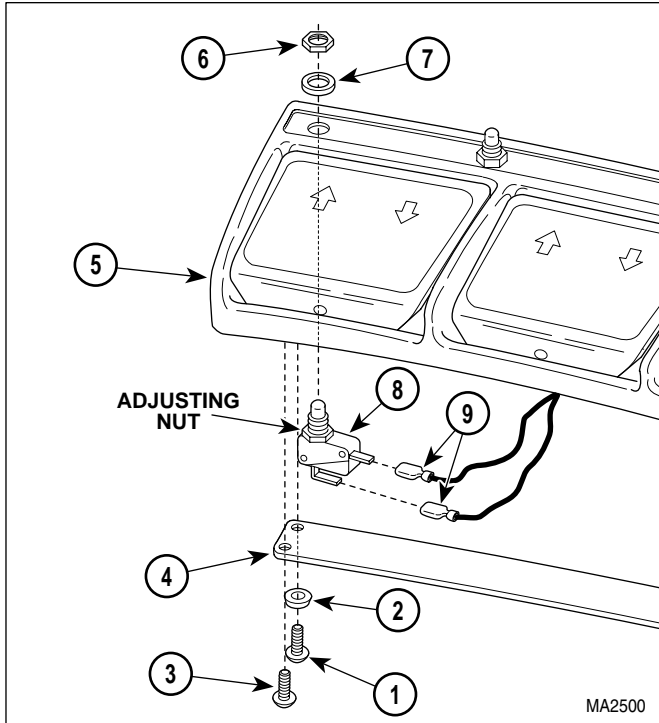

Figure 4-28. Typical Foot Switch Removal/Installation
- (1) Disconnect coil cord of foot control from table.
- (2) Remove four screws (1, Figure 4-28), four glides (2), four screws (3), and wire channel cover (4) from foot control casting (5).
- (3) Remove nut (6) and lockwasher (7) from foot switch (8).
- (4) Partially remove foot switch (8) from foot control casting (5).
- (2) Feed receptacle of interface board (12) thru wire hole.
- (3) Install interface board (12) on foot switch bracket (2) and secure with two standoffs (11), lockwashers (10), screws (9), lockwashers (8), and nuts (7).
- (4) Make sure springs and spacers are in position and have not fallen off.
- (5) Install pedal (6) on foot switch bracket (2) and secure with spacer (5) and screw (4), making sure pedal is mounted on pivot spacer.
- (6) Install foot switch bracket (2) on foot control casting (3) and secure with two screws (1).
- (7) Install receptacle (9, Figure 4-28) on receptacle bracket (7) and secure by inserting retaining clip (8) in slot of receptacle.
- (8) Install receptacle bracket (7) on foot control casting (5) and secure with two screws (6).
- (9) Install wire channel cover (4) on foot control casting (5) and secure with three screws (3), four glides (2), and four screws (1).
- (10) Connect coil cord of foot control into table.